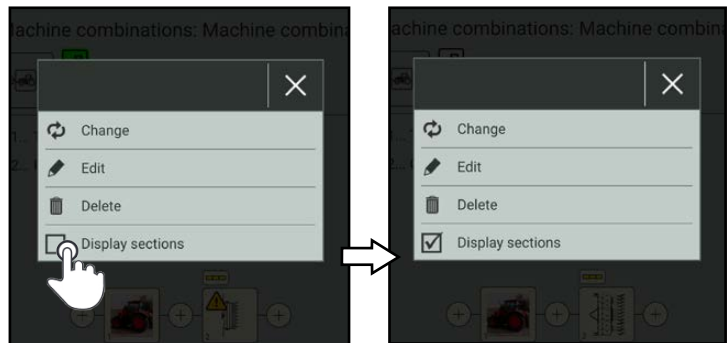

Fig. 322: Activating "Display sections"
2. Tap "Display sections" so that the check box is activated (see Fig. 322).